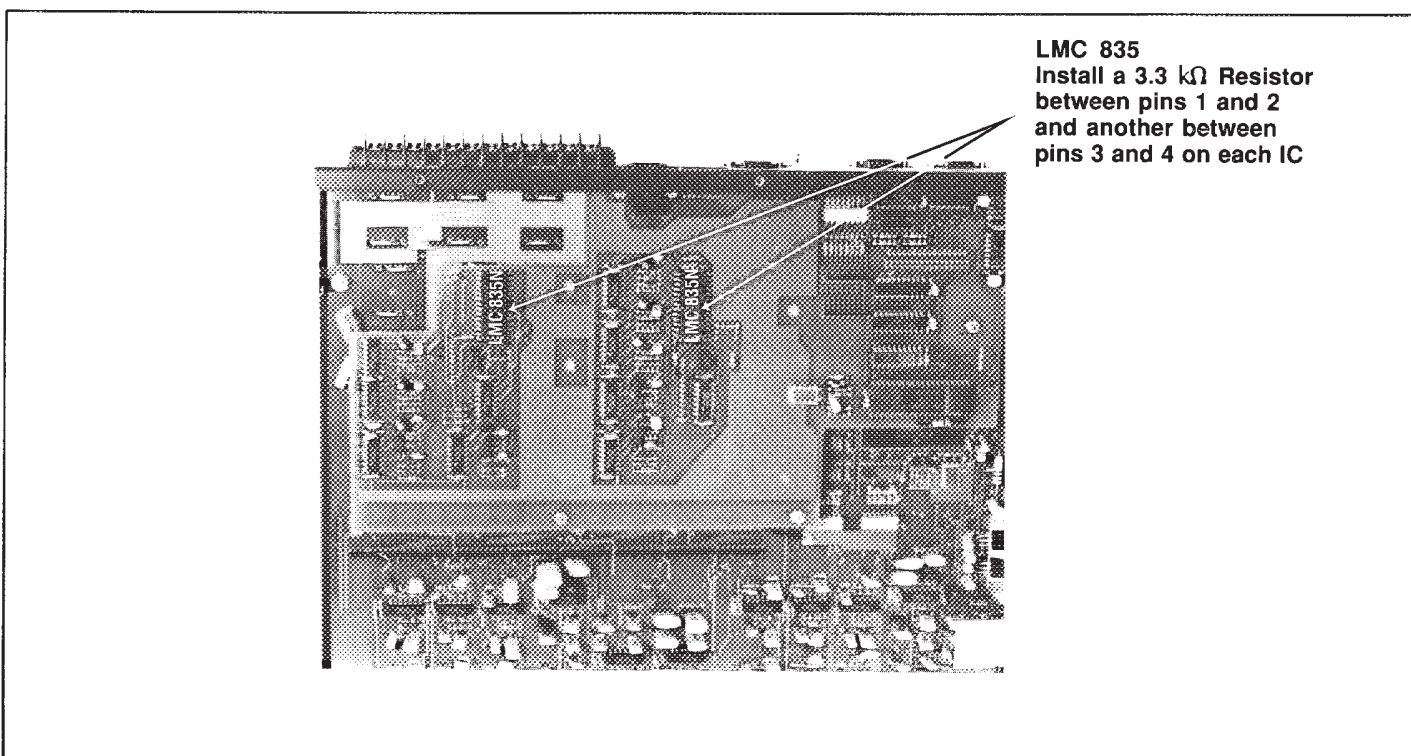

Figure 6 Modifying the Master Gain Circuits for ± 6 dB of Boost/Cut and $\frac{1}{2}$ dB Resolution
5. The master gain circuits are located on the upper circuit board. No provision is made on this board to mount the resistors. To change the master gain, solder a 3.3 k Ω $\frac{1}{4}$ watt resistor between pins 1 and 2, and another 3.3 k Ω $\frac{1}{4}$ watt resistor between pins 3 and 4 of each LMC835, the large 28 pin IC's shown in Figure 6.